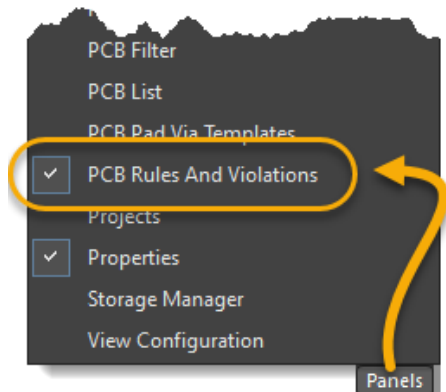

Figure 6. Opening the PCB Rules and Violations panel
17. Instead of using the report to navigate through the violations, we will use the *PCB Rules and Violations* panel while in the PCB. While in the Module 25 PCB Design Rule Checks (DRCs) .PcbDoc, click the **Panels** button  and select the *PCB Rules and Violations* panel as shown in Figure 6.